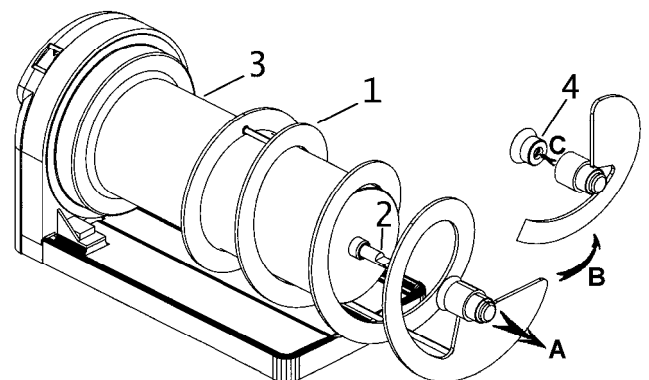

Figure 6
After following the procedures for removing the spiral, remove the bowl gasket (Figure 6, #1) from the holder by pulling forward and the evaporator (#3) will be released for cleaning. Once all of the elements have been disassembled proceed to clean with non-abrasive neutral pH detergent. Use a cloth or a sponge to avoid scratching the bowl and other elements.
3. Assemble the bowl gasket wet (**Figure 6**). Assemble the gasket by pulling as **arrows A and A'** indicate and place it in its setting (**arrow C**) following the direction of **arrow B**.